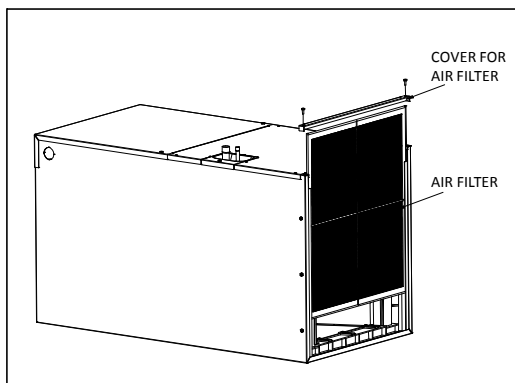

FIGURE 5:Remove The Air Filter
2. Braze the suction line and the liquid line. See figure 5.